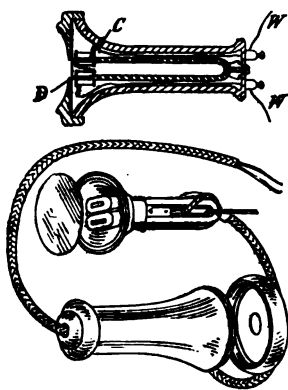

FIG. 138. — Bell telephone receiver.
*Receiver and transmitter.* In the simplest form of telephone first used, one piece of apparatus served both as transmitter and receiver. Figure 138 shows the construction of this. It consists of a U-shaped magnet which has around each pole a coil *C* of many turns of very fine wire which is connected with the outside circuit. Just in front of the magnet is a thin diaphragm *D* made of metal. As one speaks into the transmitter the air waves produced by the voice